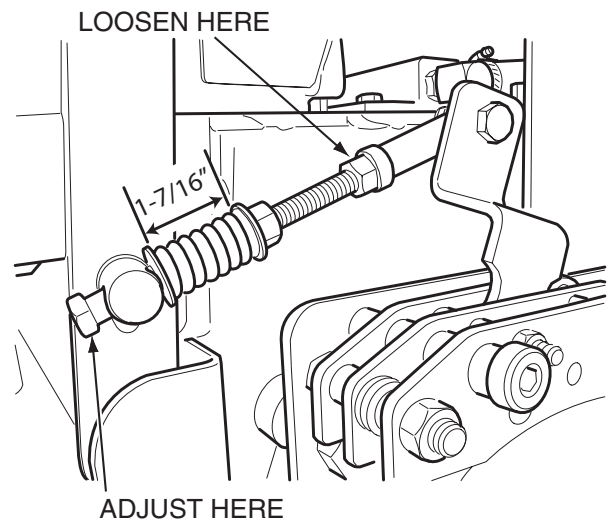

Figure 6-2. Brake Rod Adjustment
4. With the brake in the engaged position, check the spring compression between the two flat washers on the LH side of the machine. The distance should be 1-7/16". (See Figure 6-2).
5. If the distance is not at the specified measurement, loosen the jam nut at the rod end side of the brake actuator rod. (See Figure 6-2).
6. Turn the adjustment bolt (clockwise to decrease the spring compression or counter clockwise to increase the spring compression) until the 1-7/16" measurement is achieved and tighten the jam nut. (See Figure 6-2).